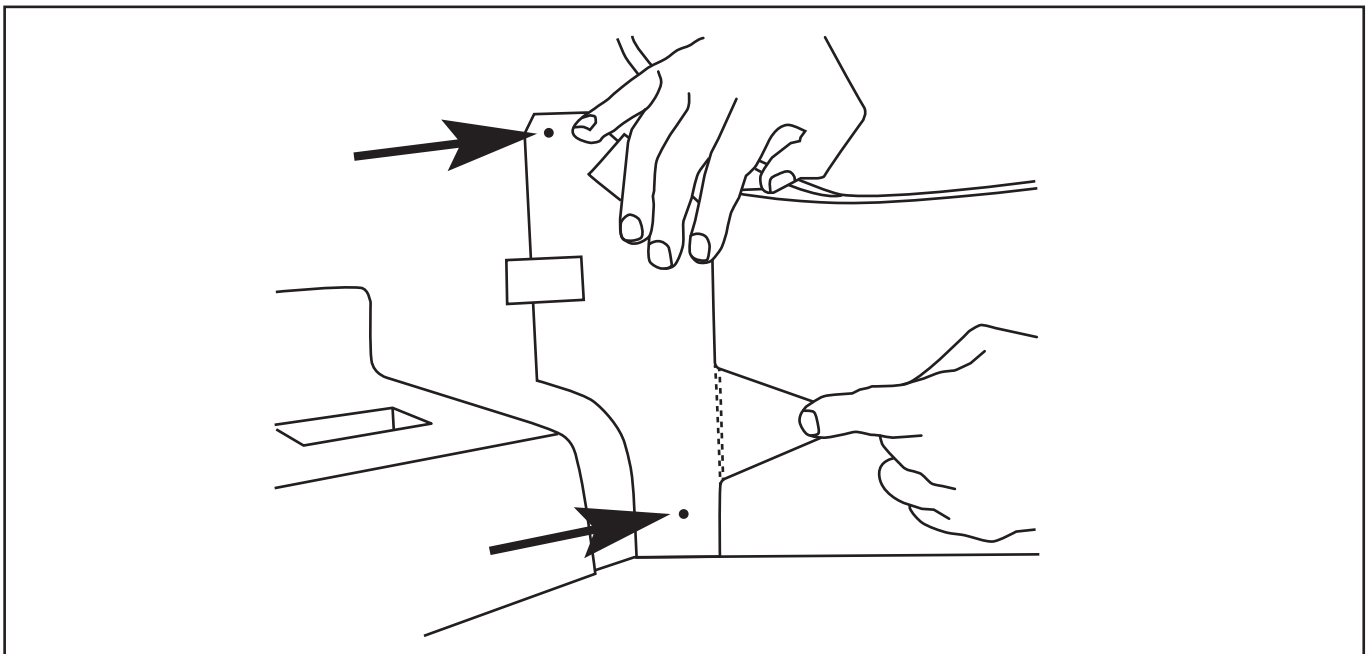

Fig. 5
6. Line up the vertical edge of each template with the edge of the rear trunk panel and secure with the push rivet. Using tape in the designated/marked areas of the templates, carefully attach to the side trunk panels (Fig. 5).